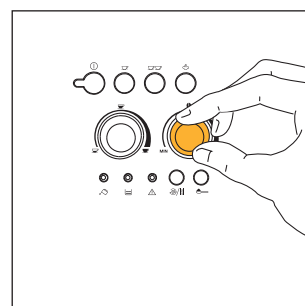
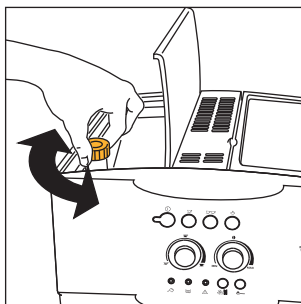

Fig.7
Fig.17
- 2) Adjust the right-hand knob (Fig. 7) to set the desired taste of the coffee. Turning the knob clockwise increases the quantity of coffee beans that the machine will grind, and thus makes the taste of the coffee stronger. When using the machine for the first time, the correct position of the knob can be found by trial and error. Make sure not to turn it too far clockwise, otherwise the coffee will be delivered too slowly (in drops), above all when preparing two cups of coffee.
NOTE 1: If the coffee is delivered a drop at a time or not at all, turn the grinding coarseness regulator (fig. 17) one click clockwise (see para. 6). Turn a click at a time until the coffee is delivered satisfactorily.
NOTE 2: If the coffee is delivered too fast and is not creamy enough, turn the right-hand knob (fig. 7) clockwise. Proceed by trial and error to find the correct position of the knob. Make sure not to turn the knob too far clockwise, otherwise the delivery may become too slow (in drops), above all when making two cups of coffee. If, after several coffees, the cream is still not satisfactory, also turn the grinding adjustment knob (Fig. 17) one click clockwise (see para. 6).
To resolve this problem, re-set the grinding coarseness on the coffee grinder by adjusting the knob (Fig. 17) one click anticlockwise (as described in chap. 6).
Nonetheless, after having made the first coffees, if delivery is too fast or too slow (in drops), the grinding coarseness must be adjusted using the knob (Fig.17) located inside the bean container. Turning one click (one number) clockwise achieves faster delivery of the coffee (without drops). Turning one click anticlockwise achieves slower delivery **and makes the coffee creamier in appearance.**